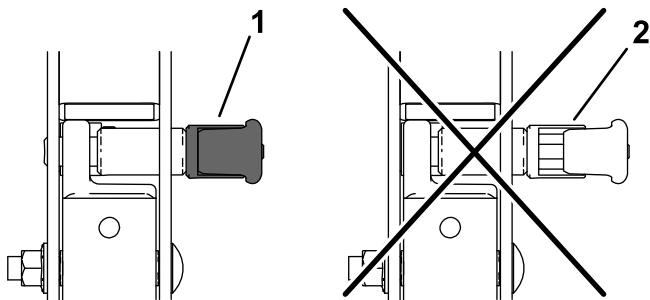

**Figure 66**
- If it tracks to the right, loosen the bolts and adjust the left stop plate rearward on the left T-slot until the machine tracks straight (Figure 66).
- If it tracks to the left, loosen the bolts and adjust the right stop plate rearward on the right T-slot until the machine tracks straight (Figure 66).
6. Tighten the stop plate (Figure 66).